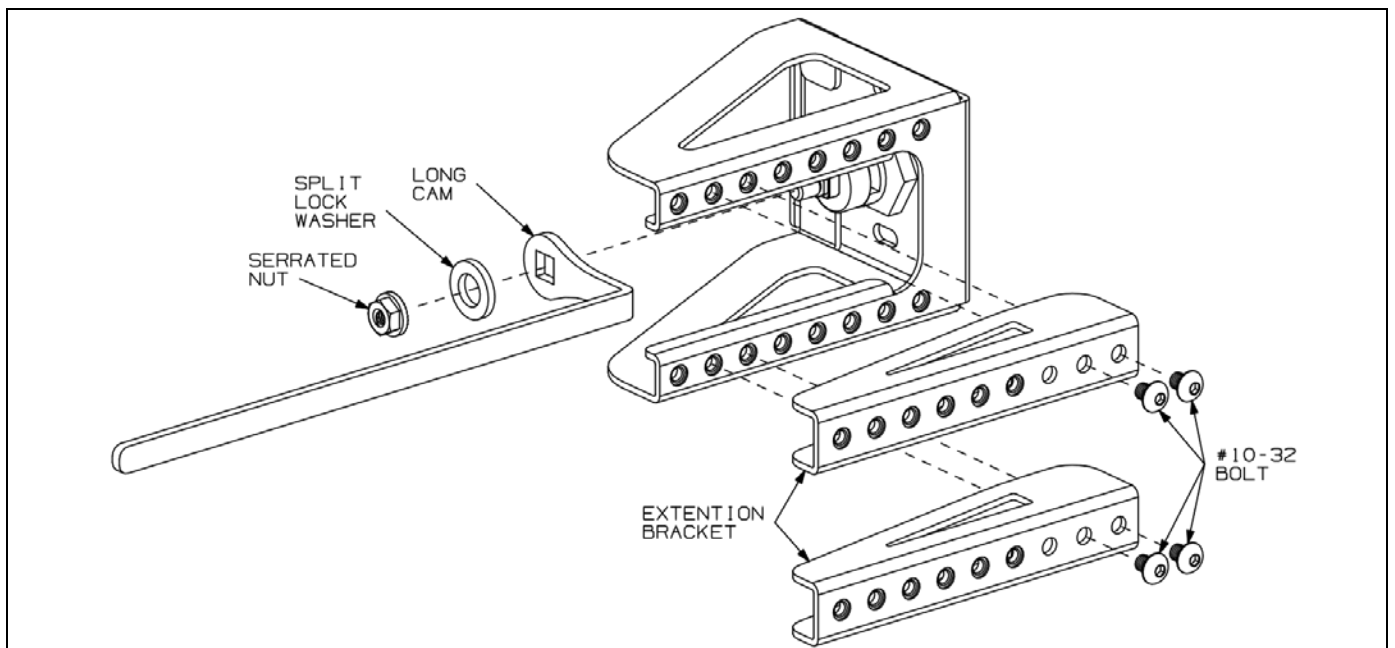

Figure 7 – Quick Assembly Guide – Extension Kit (VS-ACK-EXT)
- Install the Extension Brackets onto the Enclosure Bracket with supplied #10-32 Bolts (4). See **figure 7**.